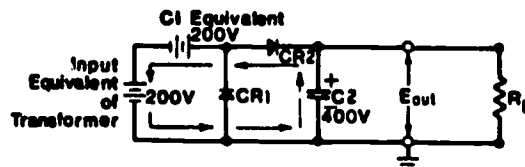

Fig 4-46. Series-aiding sources.
During the period when the input cycle is negative, as shown in view (B), the polarity across the secondary of the transformer is reversed. Note specifically that the top of the secondary winding is now positive. This condition now forward biases CR2 and reverse biases CR1. A series circuit now exists consisting of C1, CR2, C2 and the secondary of the transformer. The current flow is indicated by the arrows. The secondary voltage of the transformer now aids the voltage on C1. This results in a pulsating d.c. voltage of 400 volts, as shown by the waveform. The effect of series aiding is comparable to the connection of two 200-volt batteries in series. As shown in figure 4-46, C2 charges to the sum of these voltages, or 400 volts.
The schematic shown in figure 4-47 is an illustration of a half-wave voltage tripler. When you compare figures 4-46 and 4-47, you should see that the circuitry is identical except for the additional parts, components, and circuitry shown by the dotted lines. (CR3, C3 and R2 make up the additional circuitry.) By themselves, CR3, C3, and R2 make up a half-wave rectifier. Of course, if you remove the added circuitry, you will once again have a half-wave voltage doubler.